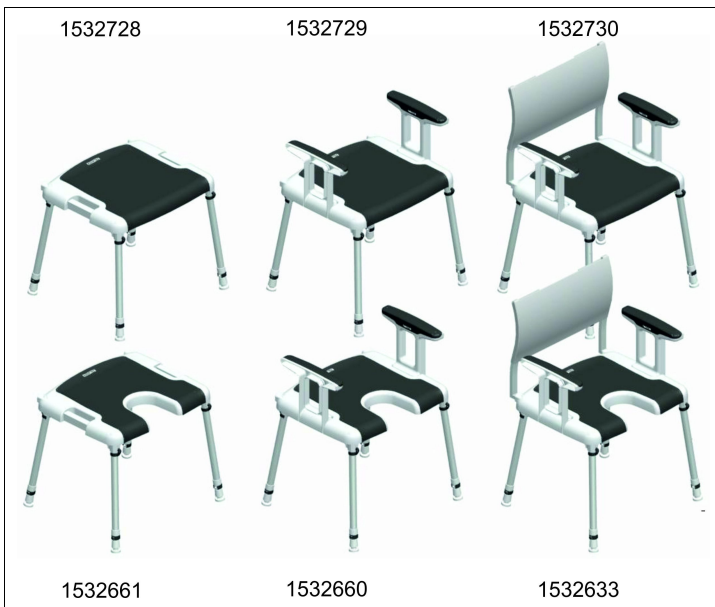

Fig. 1
3.2 Scope of Delivery (Fig. 1)
The scope of delivery depends on the version ordered. The possible versions are shown in figure 1.